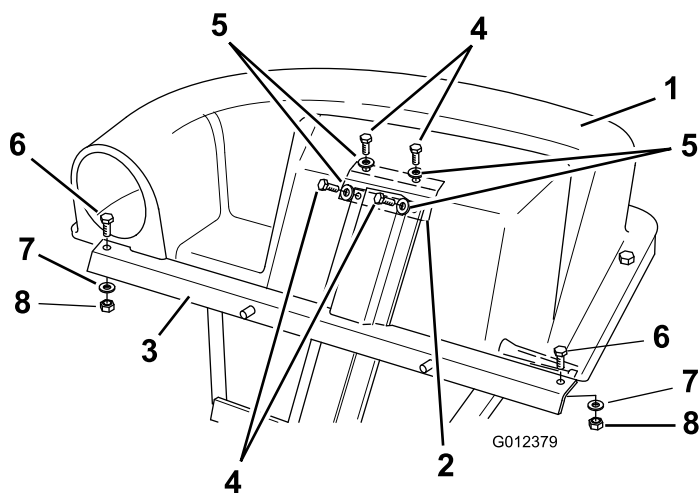

Figure 5
1. Secure the top of the mounting frame to the grass catcher cover using the backup plate, 4 bolts (5/16 x 1 inch), 4 washers (5/16 inch), and 4 locknuts (5/16 inch) (Figure 5).
- Secure the mounting frame with the 2 bolts (3/8 x 1 inch), 2 washers (3/8 inch), and 2 locknuts (3/8 inch) (Figure 5).